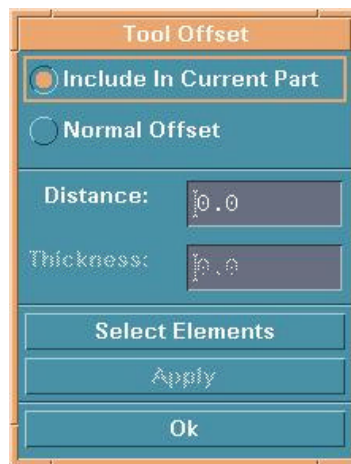

Figure 5.1.10 Tool Offset
1. Select OFFSET FROM MATING TOOL and the TOOL OFFSET dialog window displays, see Figure 5.1.10.